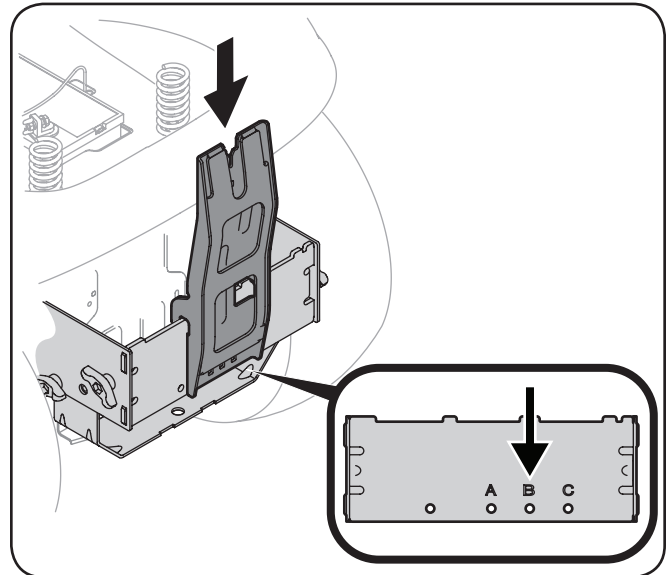

Figure 4-8
1. Install the vertical support bracket onto the mounting assembly of the tractor by hooking it over the hitch plate as seen in Figure 4-8.
2. Align the vertical support bracket with the mounting hole that best suits the deck size of your machine. See Figure 4-8.